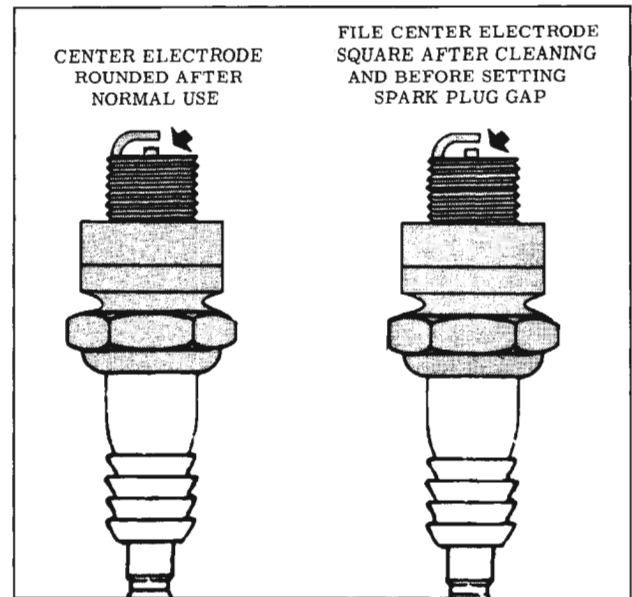

Fig. 14-111 Spark Plug Electrodes
1. The center electrode should be filed flat before setting the gap. (Fig. 14-111)
2. File the center electrode square as shown in Fig. 14-111.